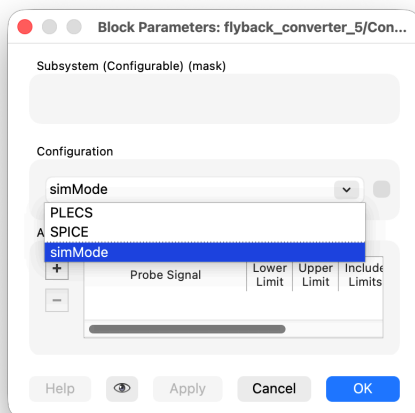

Figure 16: Variable used to control the configuration of configurable subsystems
- 2 Open each configurable subsystem created in this tutorial, by **double-clicking** on it. In the **Configuration** drop-down menu, replace the `<reference>` placeholder with the name of the variable defined in the **Initialization commands**, e.g., `simMode`, as in Fig. 16.